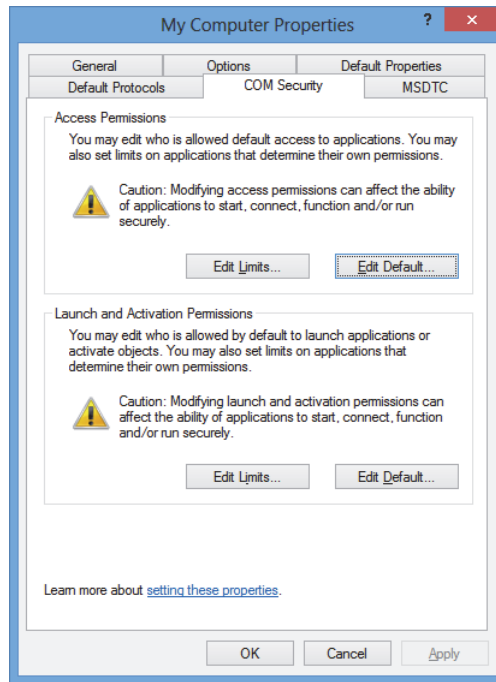

Figure 2-6 The COM Security tab in the My Computer Properties dialog box
- e) Click the **COM Security** tab (see Figure 2-6 on page 34).